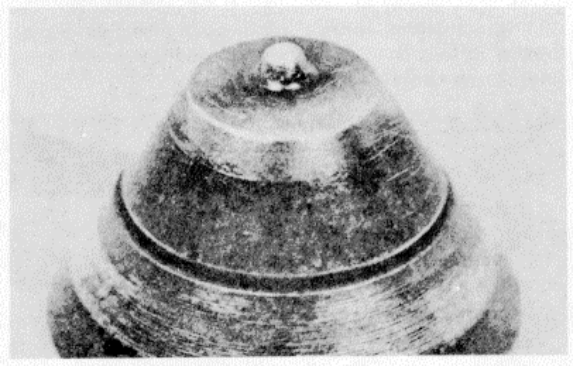

Figure 16H-7. Cup Tip Damaged by Wire Brushing
B. Corrosion damage and the effect of excessive heat: This condition usually results from high acid or sulphur content in the fuel or overload operating conditions, Figure 16H-8.